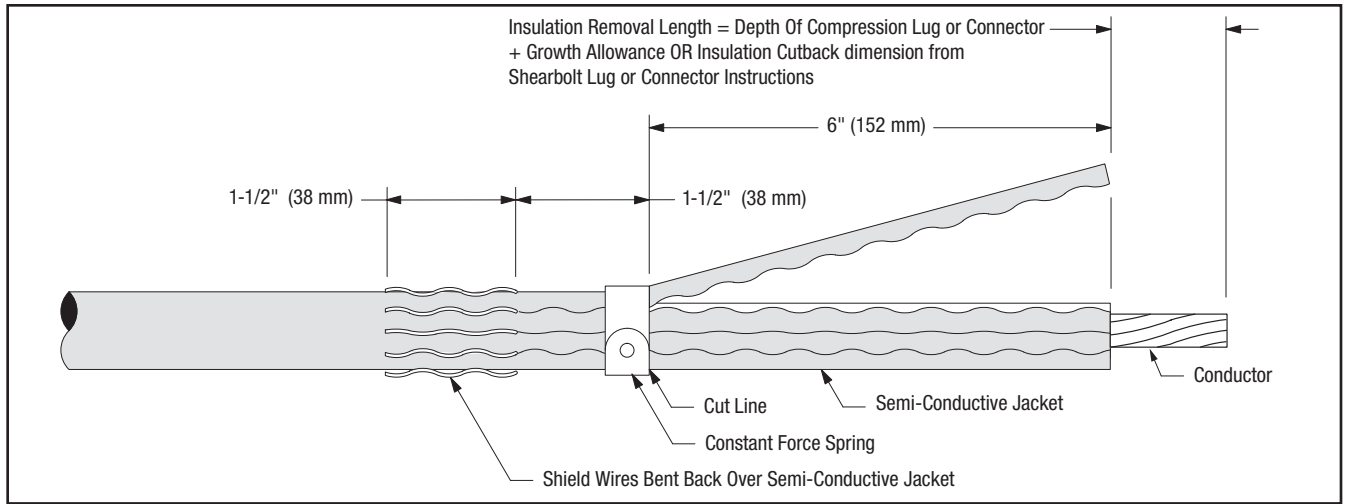

Figure 20
12.7 Remove semi-conductive jacket to dimension shown in Figure 20.
**NOTE: To ease jacket removal, install constant force spring as shown in Figure 20 and ring cut 80% through jacket. Remove jacket sections by pulling against constant force spring. DO NOT BELL SEMI-CONDUCTIVE JACKET. Remove constant force spring.**